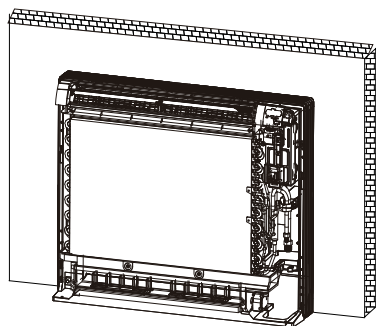

Figure 3.3
- Hang the indoor unit on the hook. (Refer to Figure 3.3)